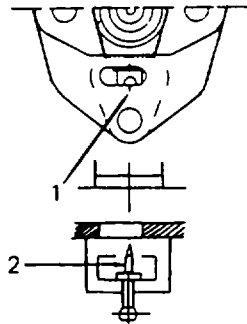

Figure 5-6. Align Control Lever Pointer With Fuel Injection Pump Access Hole
- c. Refer to Figure 5-6. The access hole on fuel injection pump has an access hole pointer match mark (1). Make sure the pointer (2) of the control lever lines up with the match mark.
- (2) Refer to Figure 5-6. Adjust speed control lever handle until the control lever pointer (2) lines up with access hole match marks (1).